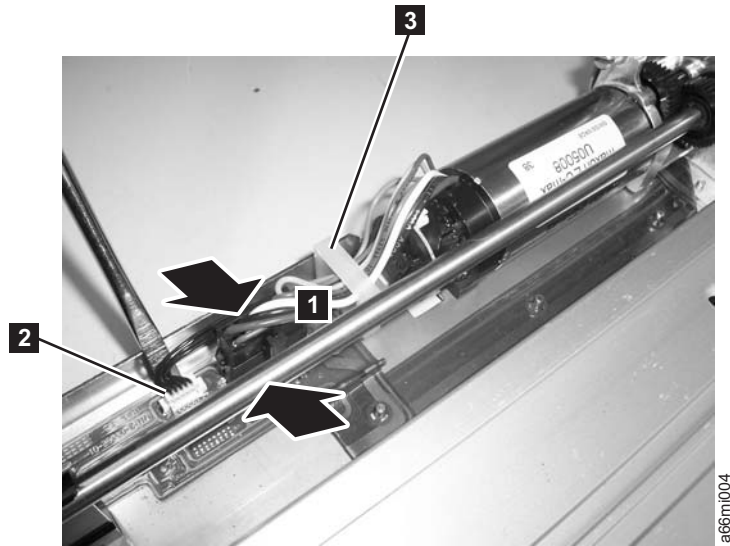

Figure 8-62. Y motor connector
5. See Figure 8-62 on page 8-63. Remove the large black connector.
- a. Pinch the latch (**1** in Figure 8-62 on page 8-63) on the cable connector.
6. Use a small flat blade screw driver to pry up the small white connector (**2** in Figure 8-62) gently working the screw driver blade along the entire outside edge of the connector.